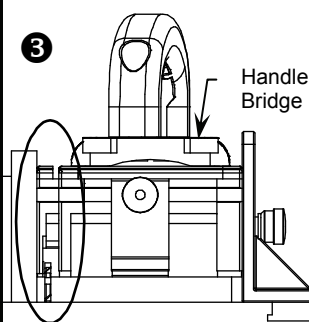

Figure 3:
- The 1/8" Leg has a tunnel height of 1/2". Do not raise the saw blade higher than 1/2" above stock surface when using the 1/8" Leg (see Figure 3 and Figure 7). Blade height reference line is molded on the outer surface of the 1/8" Leg (Figure 8).